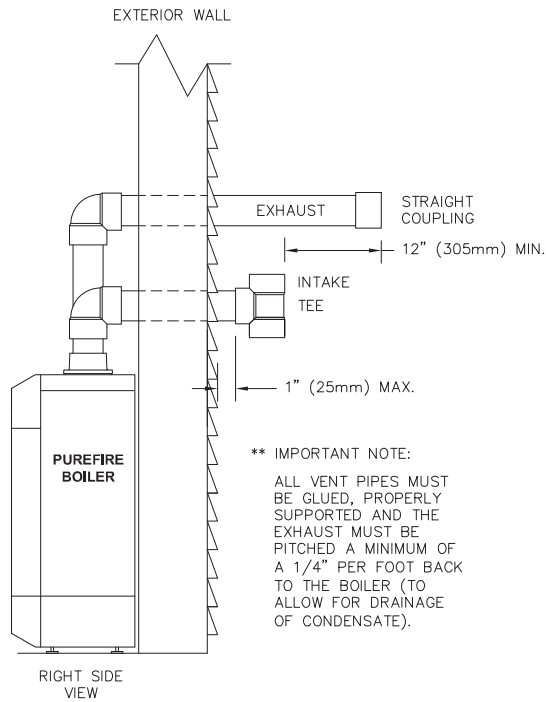

Figure 3.3: Standard Exhaust & Air Inlet Pipe Terminations
- b. Figures 3.3 through 3.6 show approved sidewall venting configurations using the standard fittings supplied.
- f. Refer to Figures 3.3 through 3.6 for sidewall venting options using PVC or CPVC pipe.